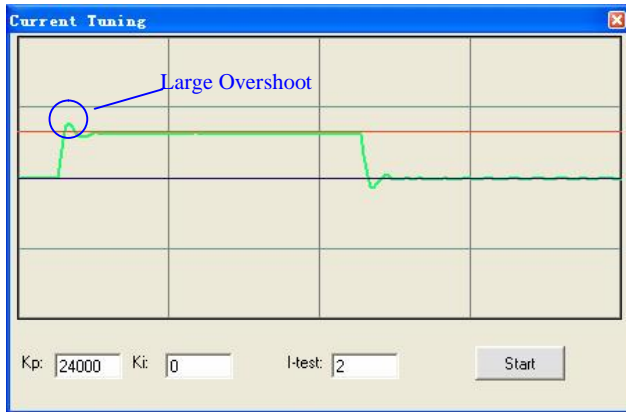

Figure 28: Response with High K_p of current-loop ($K_p = 24000$)
3. If get a large overshoot response as shown in figure 28, decrease Kp to get a